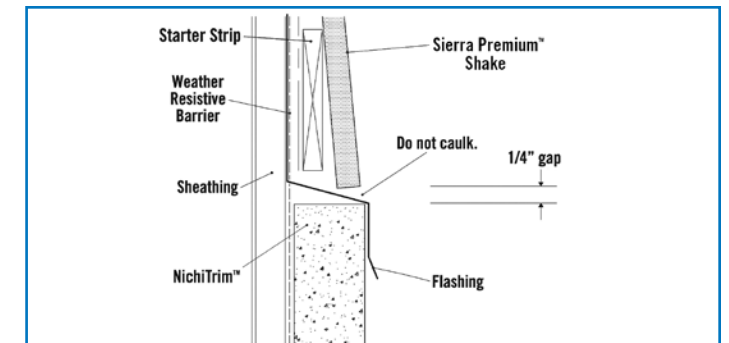

Fig. 8.2
- All horizontal trim must be flashed. Leave a 1/4” gap between the siding and flashing. Do not caulk this gap. Do not use raw aluminum flashings. Flashings must be galvanized, anodized or PVC coated. (Fig. 8.2)